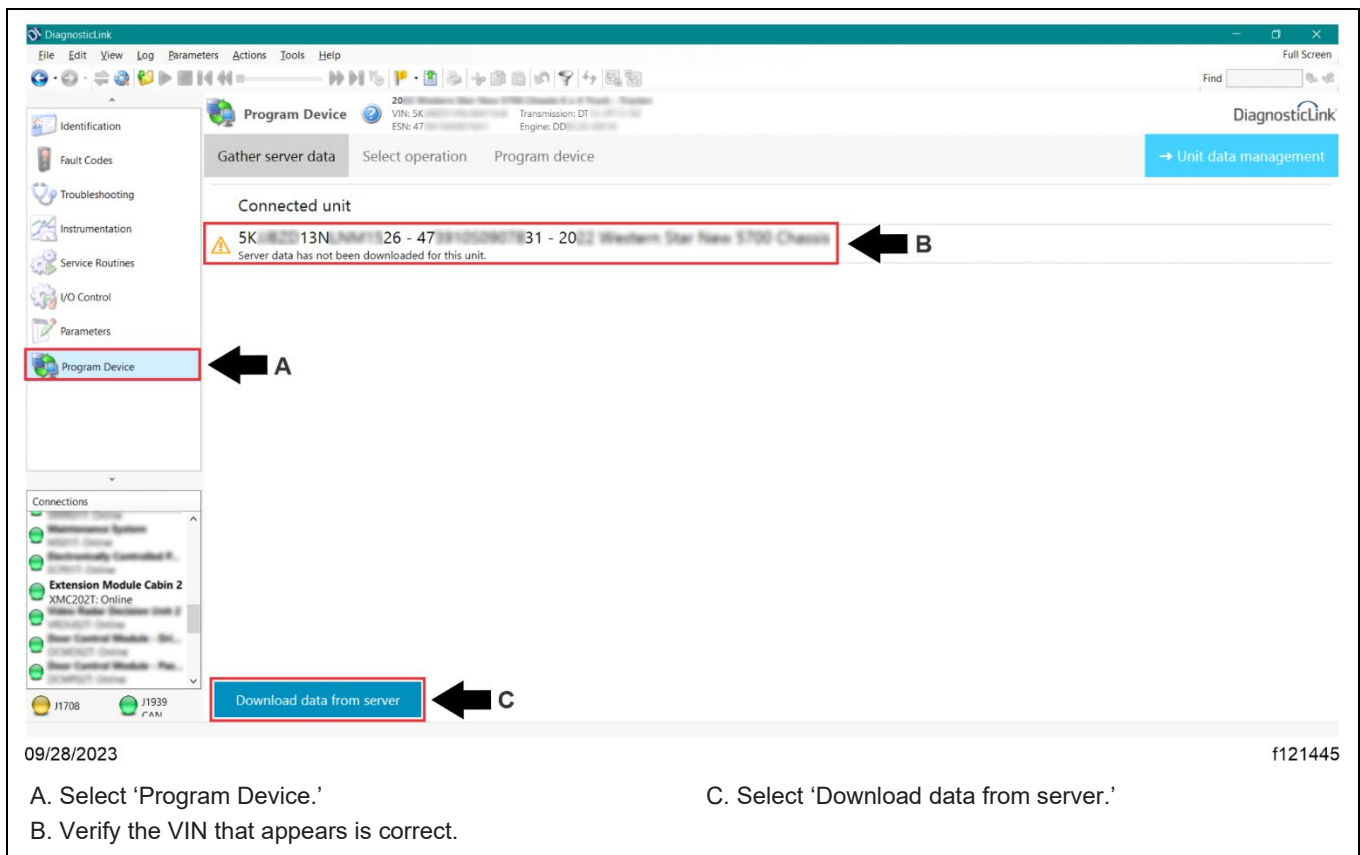

Fig. 2, Downloading Data from the Server
- Go to the 'Program Device' tab, and make sure that the Vehicle Identification Number (VIN) is correct. Select 'Download data from server.' See Fig. 2.